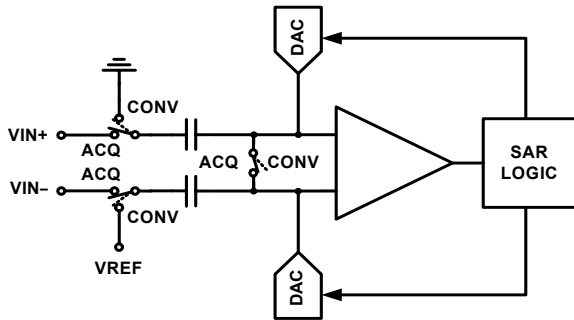

FIGURE 26. SAR ADC ARCHITECTURAL BLOCK DIAGRAM
The ISL2671286 is based on a successive approximation register (SAR) architecture utilizing capacitive charge redistribution digital-to-analog converters (DACs). Figure 26 shows a simplified representation of the converter. During the acquisition phase (ACQ), the differential input is stored on the sampling capacitors (CS). The comparator is in a balanced state since the switch across its inputs is closed. The signal is fully acquired after  $t_{ACQ}$  has elapsed, and the switches then transition to the conversion phase (CONV) so the stored voltage can be converted to digital format. The comparator becomes unbalanced when the differential switch opens and the input switches transition (assuming that the stored voltage is not exactly at mid-scale). The comparator output reflects whether the stored voltage is above or below mid-scale, which sets the value of the MSB. The SAR logic then forces the capacitive DACs to adjust up or down by one-quarter of full-scale by switching in binarily weighted capacitors. Again, the comparator output reflects whether the stored voltage is above or below the new value and sets the value of the next lowest bit. This process repeats until all 12 bits have been resolved.